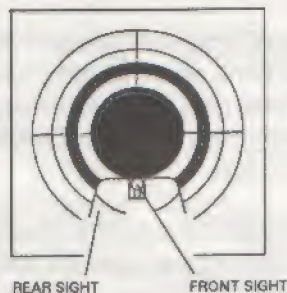

FIGURE 8
4. Aim by aligning target with front and rear sights (see Fig. 8)